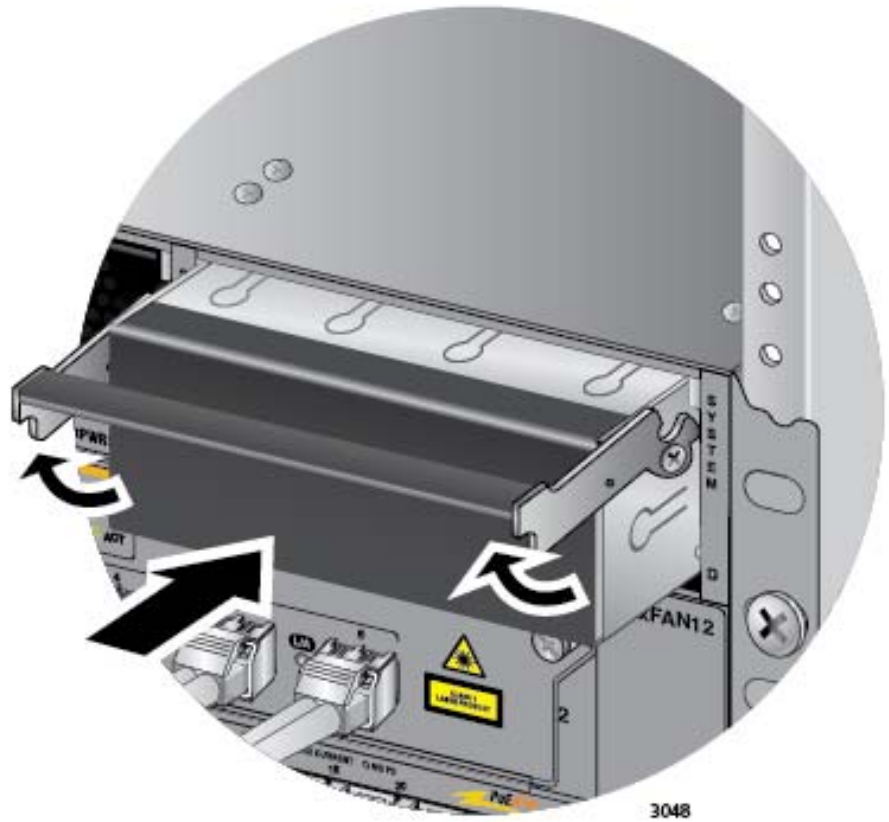

Figure 143. Installing a Blank Power Supply Slot Cover
5. Place the locking handle on the slot cover in the up position and slide the cover into the empty power supply slot, as shown in Figure 143 on page 225.